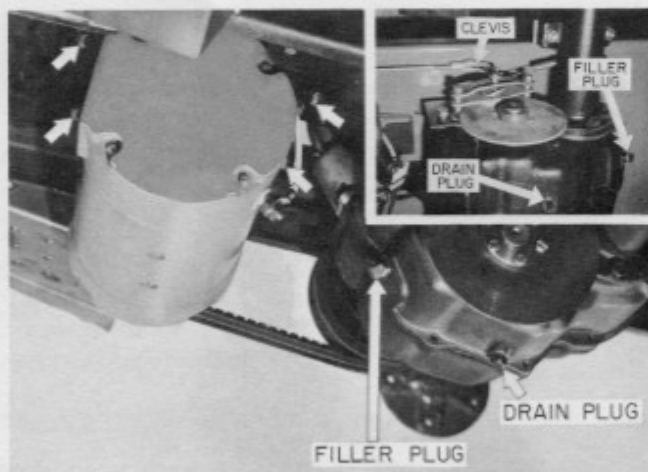

Figure 20. Brake, Transaxle, and Motor Mounting
After 100 operating hours, the transaxle filler plug should be removed and the fluid level checked (See Figure 20). The oil level should be to the bottom edge of the filler hole. If necessary, replenish with approved axle fluid only, i.e., SAE EP90.
1. Loosen the four carriage bolts holding the motor plate. Insert a 1/4-inch wedge under the forward (rear on E12M model) part of the motor plate, and retighten bolts finger tight (See Figure 20).
A fully depressed brake pedal or an engaged parking brake should prevent the tractor from rolling on average hillsides. If the brake does not perform satisfactorily, the following adjustment may be made: (See Figure 20).